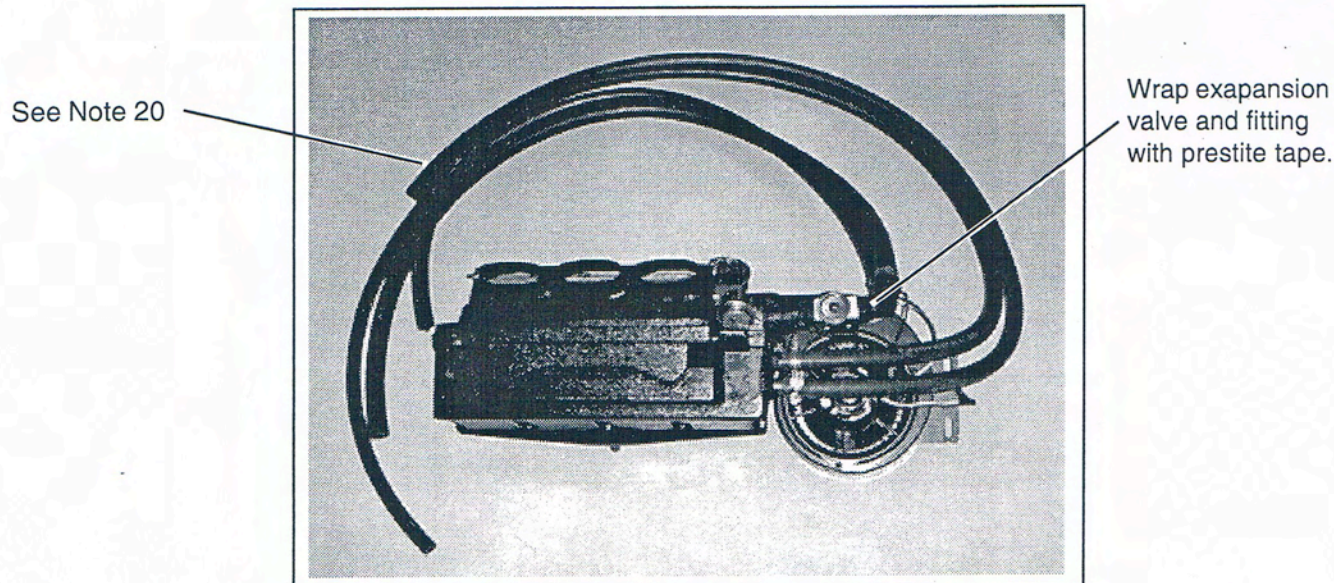

FIGURE 6
22. Secure 5/8" heater hose to the heater fittings on the coil. Identify the opposite end of the bottom heater hose so it can be secured to the outlet or intake manifold at a later time. **(FIGURE 6)**